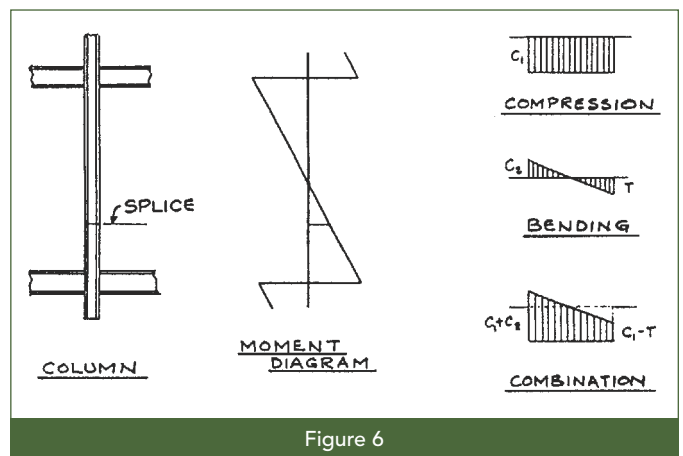

Figure 6
**Avoid designing column splices at mid-story height.** These are often too high for the erector to reach without rigging a float or scaffold. If the splice can be located no higher than 5 ft above the tops of the steel beams, it saves the expense of the extra rigging and still will be in a region of the column where bending forces are relatively low (see Figure 6).
**strength of the governing column size.** Seldom is the splice located at the point of maximum bending and seldom do the bending stresses result in a condition that would require a full-strength splice. The column has axial compression stresses. The excess capacity is allotted to bending stresses that occur as compression in one flange and tension in the other. The compression forces are added to each other at one flange while at the other flange the tension force is subtracted from the compression force. Seldom does this other side of the column ever go into tension and almost never into full allowable tension of the magnitude that would require a full-strength splice. Thus, except in high-seismic construction, there often is little justification for requiring a full-strength column splice (see Figure 6).